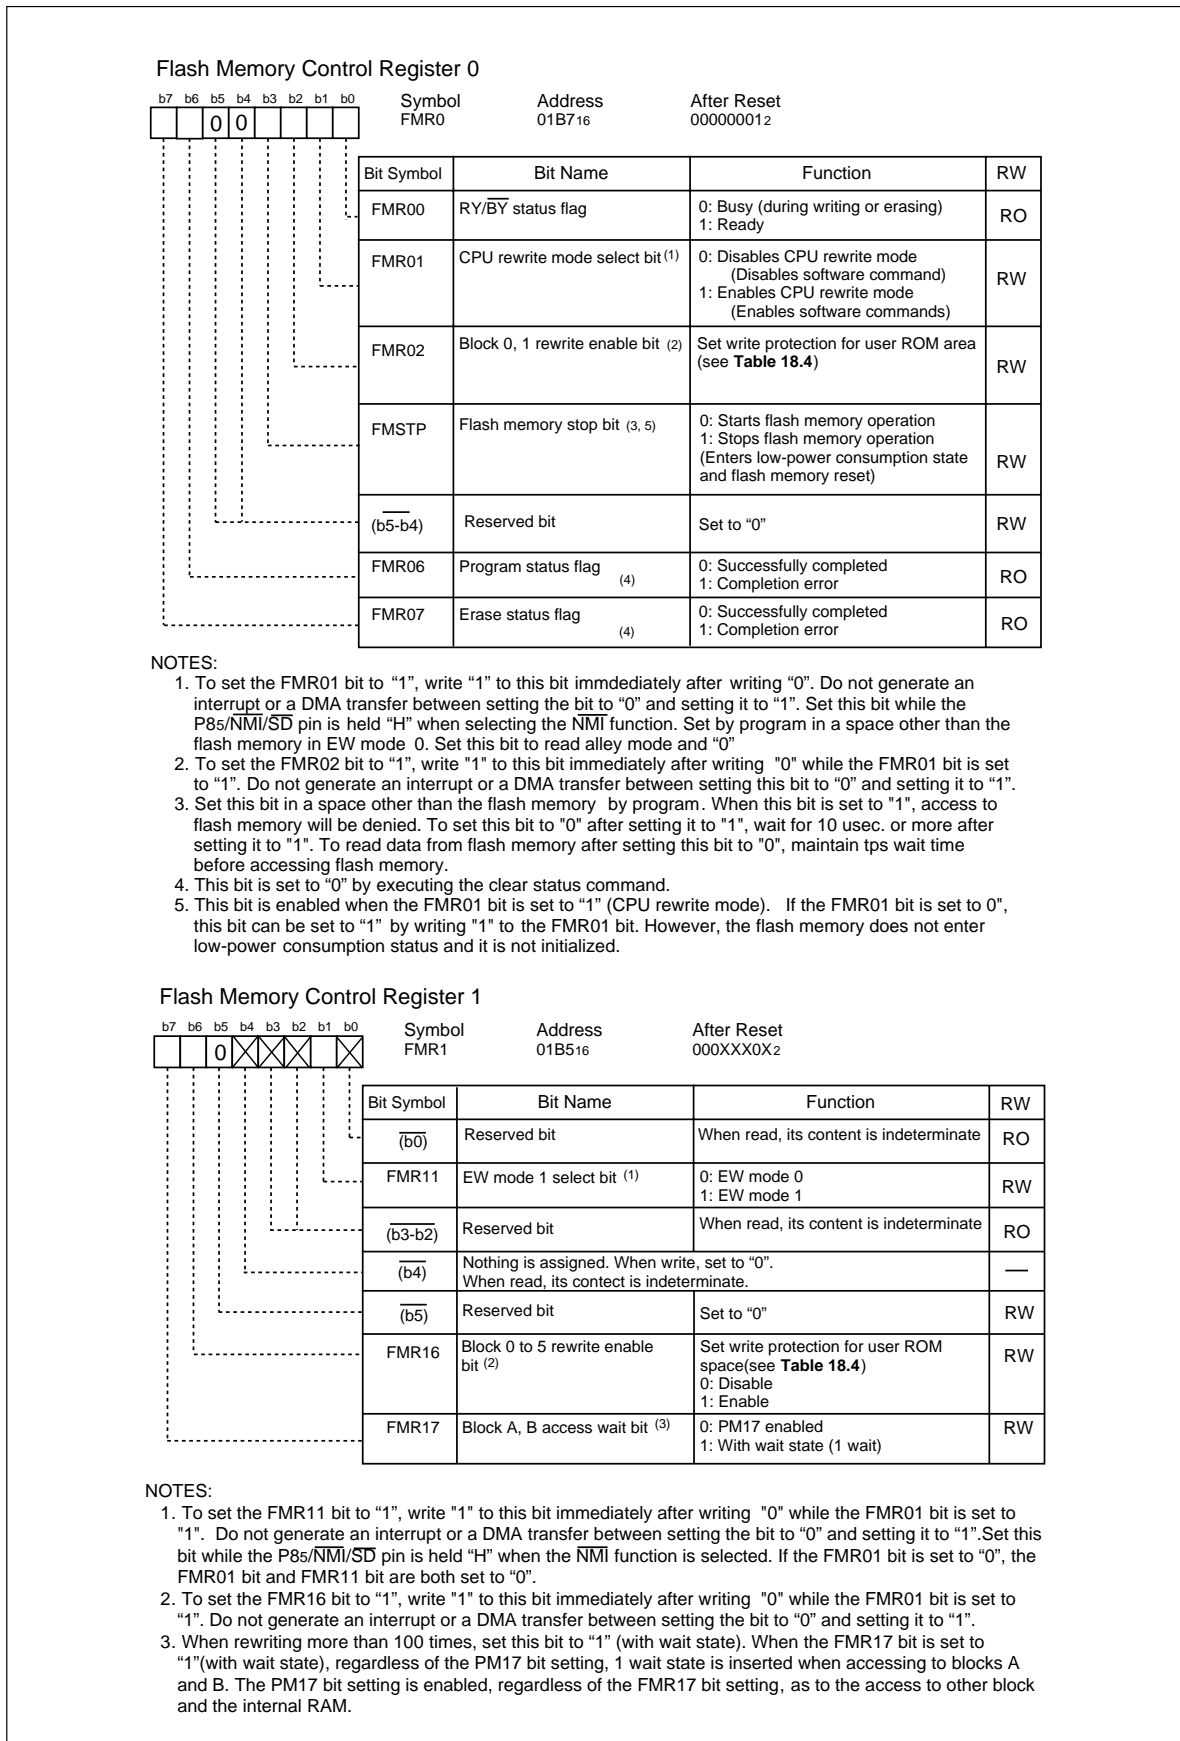
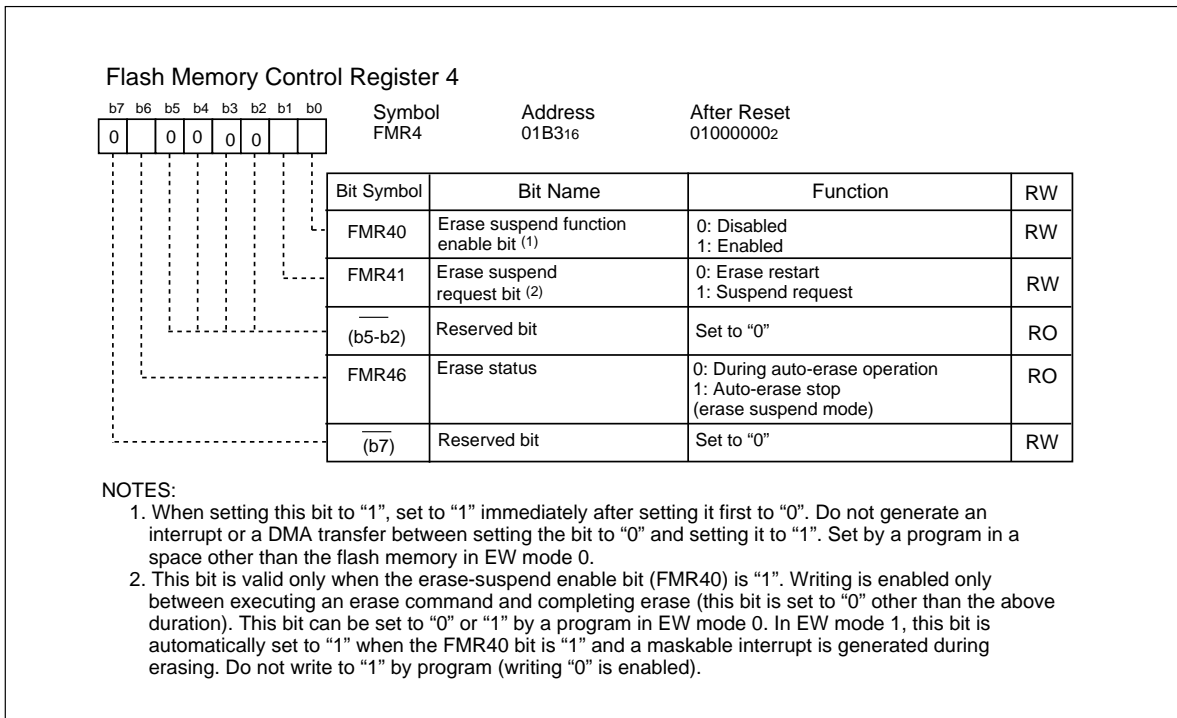

Figure 18.7 FMR0 and FMR1 Registers
Figure 18.8 FMR4 Register
**Figure 18.7** shows the flash memory control register 0 and flash memory control register 1. **Figure 18.8** shows the flash memory control register 4.